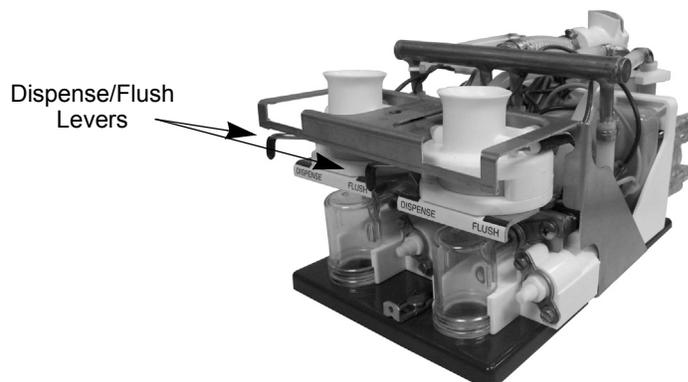

Figure 10. Dispense/Flush Lever Location
1. Open the cabinet door and move the valve handle from the *Dispense* to *Flush* position, see Figure 10.